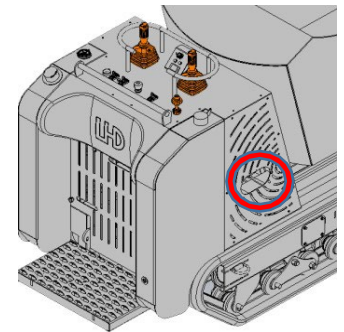

Fig 18
13. Auxiliary Tool Circuit (If Equipped) (Fig 18)